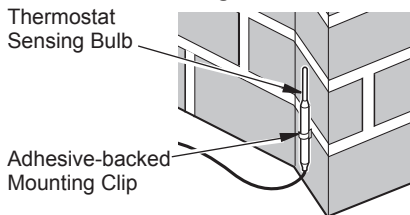
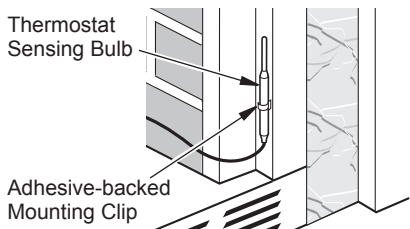
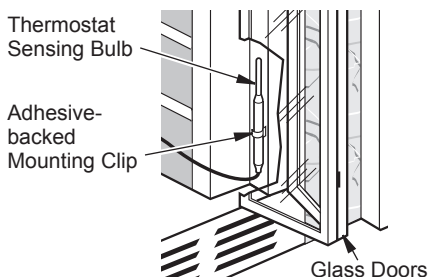

Figure 37 - Locating Thermostat Sensing Bulb on Masonry Fireplace
Figure 38 - Locating Thermostat Sensing Bulb on Factory-built Metal Fireplace
Figure 39 - Installing Thermostat Sensing Bulb behind Glass Doors
3. The thermostat sensing bulb may be located to the lower right front side of fireplace. Determine location of sensing bulb, but do not mount sensing bulb until step 4. If you have a masonry fireplace, see Figure 37 for location. If you have a factory-built metal fireplace, see Figure 38 for location. If your fireplace has glass doors, position sensing bulb directly behind door gap (see Figure 39).